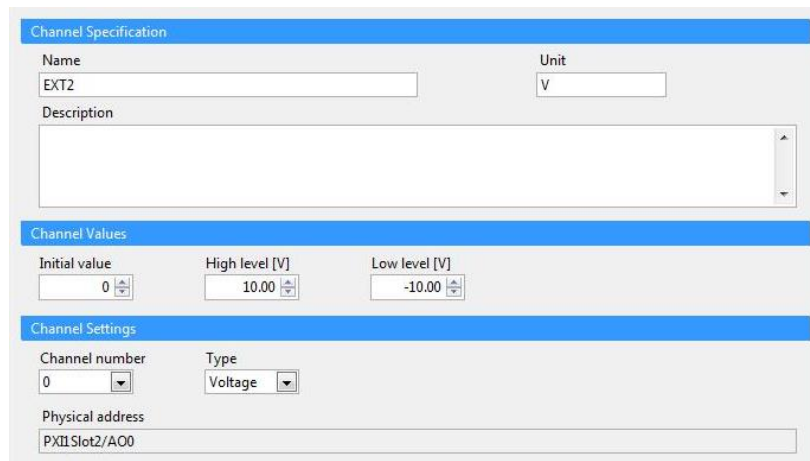

Figure 5-19
5. To make them easier to identify, you can change the names of the channels that you will be using. For example, if you are using just the structure actuator, you can change AO0 to EXT2, AI12 to LVDT2, and AI14 to LC2. The connector block has each channel labeled for your reference. See Figure 5-19.